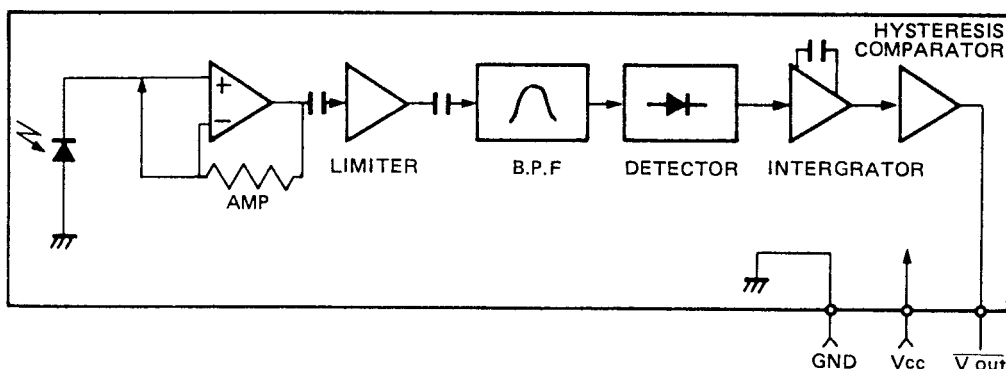

Fig. 29 IR Receiver Unit Block Diagram
7.2 Data Entry from IR Receiver (Fig. 29)